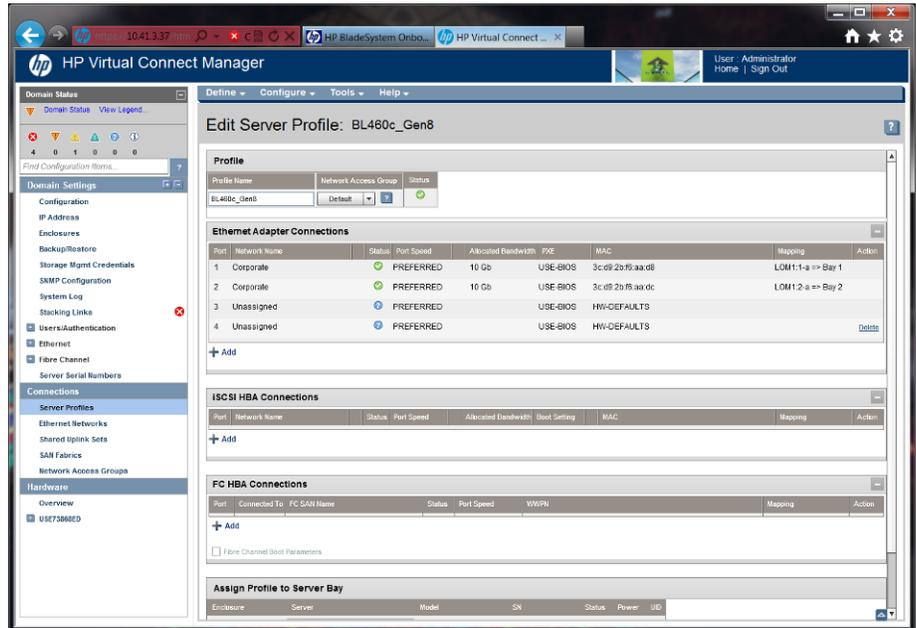

Figure 22: Adding ports.
- Each entry in the table is a mapped FlexNIC. Click Add twice to include two more ports. (See Figure 22.)